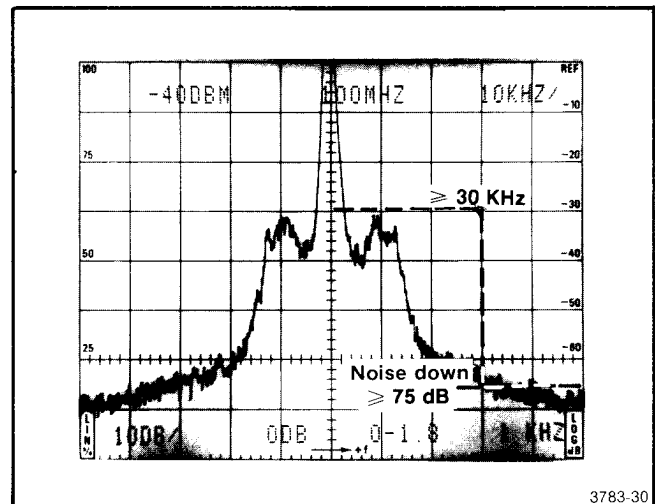

Fig. 3-16. Typical display of phaselock noise.
d. Increase the REF LEVEL 20 dB to -40 dBm to position the signal peak 20 dB above the reference line. Check the amplitude of the noise sidebands 30 times the resolution bandwidth away from the signal (see Fig. 3-16). Noise sidebands should be 75 dB or more below the peak signal level or 55 dB below the top of the screen.